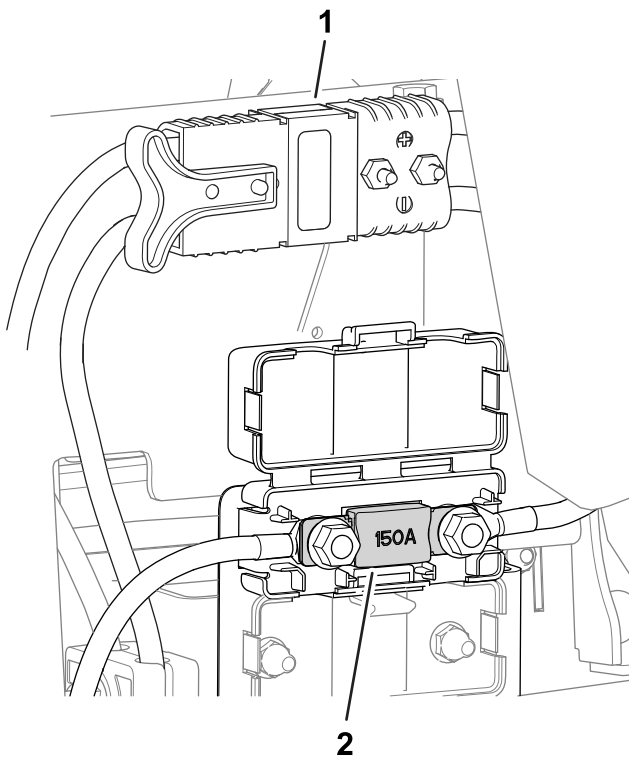

Figure 58
- The fuse for the electrical system is located under the main-power connectors (Figure 58).